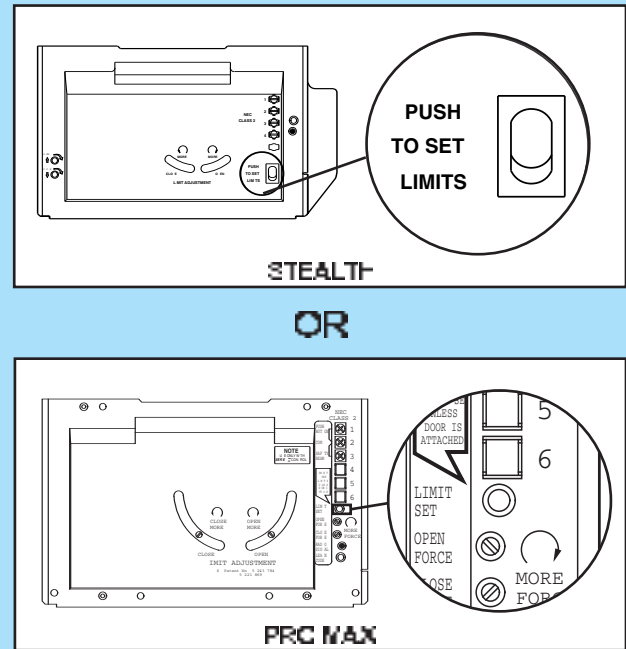

Fig. 6-1
2. Set "OPEN" limit switch (Fig 6-1).
3. Set "CLOSE" limit switch (Fig. 6-1).